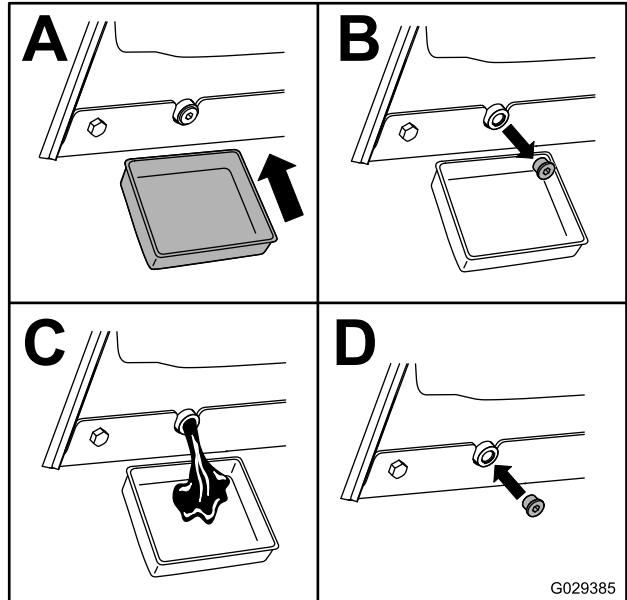

Figure 49
5. Drain the oil beneath the platform (Figure 49).